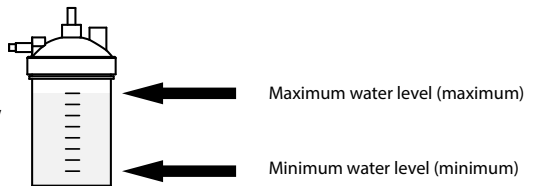

Figure 1
2. Remove the humidification bottle, unscrew the bottle cap counterclockwise, and install cold water or distilled water. The water level must be as indicated. Do not Above/ below the height/low indicator line of the bottle. Close the bottle and screw the bottle clockwise. As shown in Figure 1.